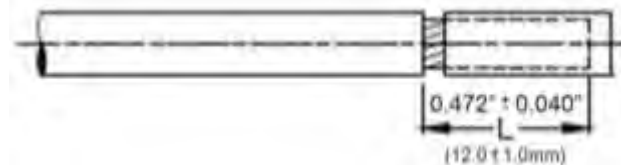

Figure 182
9. Strip to $0.472'' \pm 0.040''$ ($12.0 \pm 1.0\text{mm}$) of insulation from each wire segment as shown in Figure 182. Remove the pre-stripped insulation just before installation, in order to avoid damage or conductor oxidation.